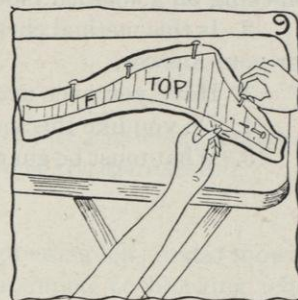
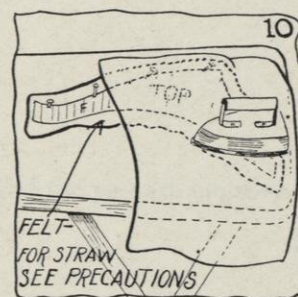

FIG. 9.
FIG. 10.
- d. Pin at edge, stretch, and steam as needed (see Section b (1), (2), (3), (4) page 50).
- f. Lay the felt or straw already pinned under the pattern on a clean ironing board, dampen the felt slightly with a little water, and stretch and pin to the ironing board if necessary, in order to hold the felt or straw flat under the pattern (see Figure 9). **Do not dampen straw unless your teacher has said you might.** (See Precaution I, page 50).
- a. See precaution for pressing straws in Section 1 b, (4) through (6), of Job 12 (page 53).
- b. Place a thick, damp, clean, unbleached muslin pressing cloth over the pattern and the felt and press while it is still pinned to the pattern and the ironing board (see Figure 10). *Be careful not to press on top of the pins or to press creases in the pattern.* The pattern must lie perfectly flat and the felt must be made to fit it. See Section a before pressing straw.